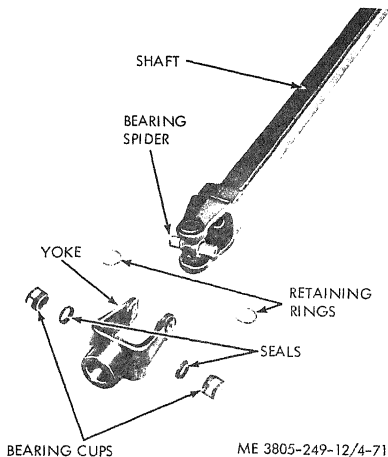

Figure 4-71. Universal joint disassembly.
b. Disassembly. Refer to figure 4-71.
(1) Remove the retaining rings and bearing cups from each end of the bearing spider.